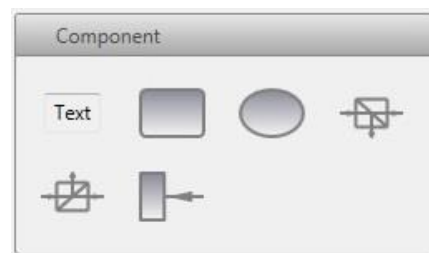

Figure 49 Graphical Elements for Creating a Custom System Template
The **Components** panel (Figure 49) contains six (6) elements that may be used to layout a custom control system: 1) a text box, 2) a rectangle, 3) an oval, 4) a beam splitter with incident beam from left and reflecting downward, 5) a beam splitter with incident beam from the left and reflecting upwards, and 6) a beam dump. Elements are dragged from this panel into the **New Control System Template** panel to create a new template.